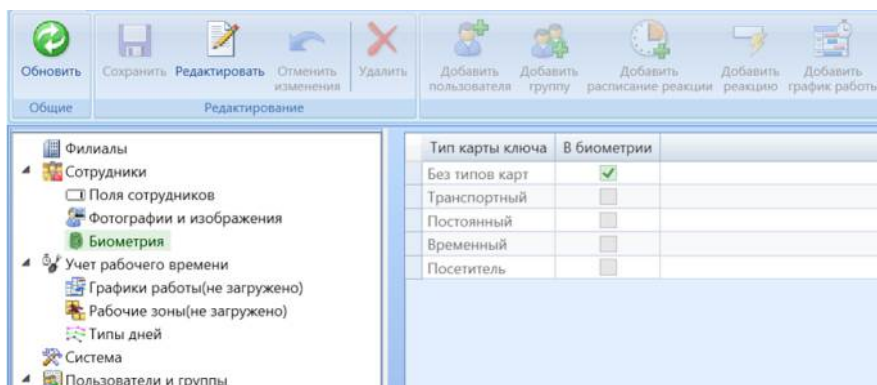

Fig. 6. Configuring recognition without using employee card types
2. In the “Biometrics” section through the “Edit” button, check the box next to “No card types” if your facility does not have separation of employee card types, or select the desired type of key that will be used for biometrics (Fig. 6). If you use one key for an employee and do not use the Type assignment to him, then select “No key type” in the biometrics settings. If you use several keys for an employee, for example Card and Mobile ID, then it is advisable to assign a Type to the main key, which should be selected when setting up biometrics.